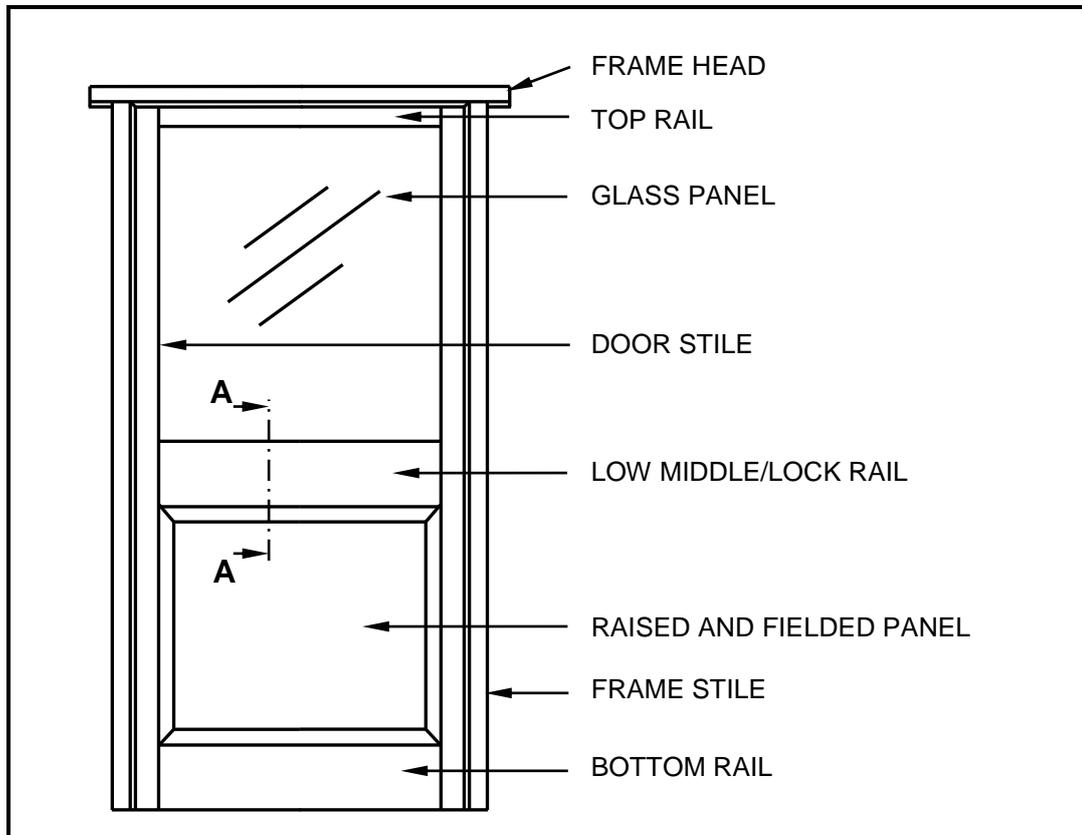

FIGURE 6.7
6.7 FIGURE 6.7 below shows the front elevation of an entrance door with a glass panel on top and a raised and fielded panel at the bottom.